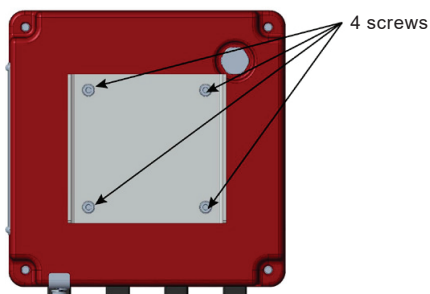

Fig. 19
2. Align the transmitter's bracket with the mounted bracket. Use a 4 mm hex tool to secure the 4 provided screws from the sides through the mating holes. See Figure 19 .